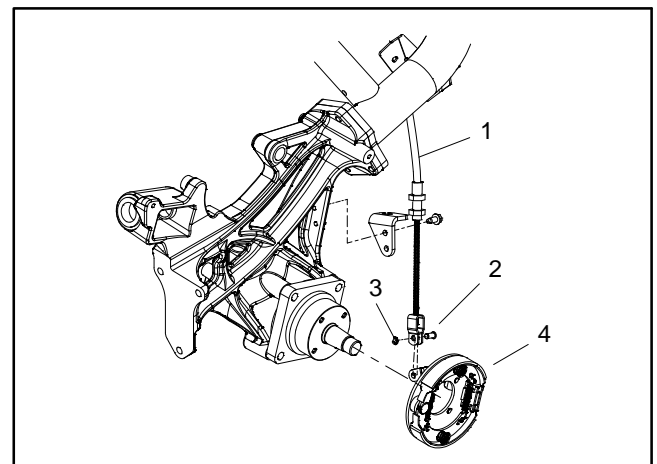

Figure 7
3. Loosen, but do not remove, lock nut (item 7) from wheel motor shaft.
6. Remove e-ring and clevis pin that secure brake cable to brake actuator lever. Position brake cable end away from lever (Fig. 7).
7. Make sure that lock nut on wheel motor shaft is loosened at least two (2) turns. Use wheel hub puller (see Special Tools in this chapter) to loosen brake drum assembly from motor.
8. Install new lock nut (item 7) onto the wheel motor shaft to secure brake drum assembly.
9. Position brake cable end to brake actuator lever. Secure cable to actuator lever with clevis pin and e-ring (Fig. 7).